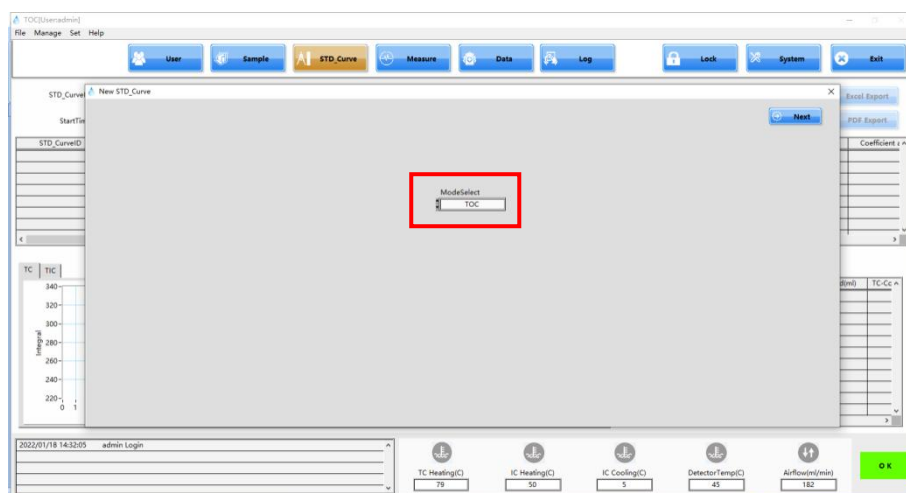
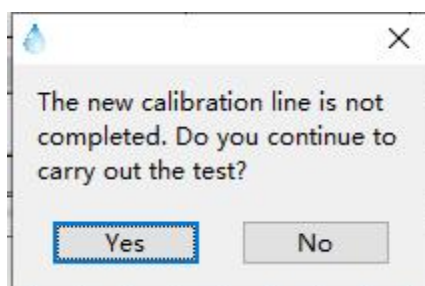

Fig. 4.21
Fig 4.22
Step 1 Click  to enter 'New STD_Curve' interface. (Fig. 4.21).
Note: The system will give a reminder (Fig. 4.22) if there is any unfinished calibration curve measurement. Click 'No' or directly close the window will enter the interface (Fig. 4.21), and all data of previous measurements that unsaved will be deleted. If click 'Yes', system will return to the unfinished standard curve establishing interface to continue the measurement, the parameters can't be modified.